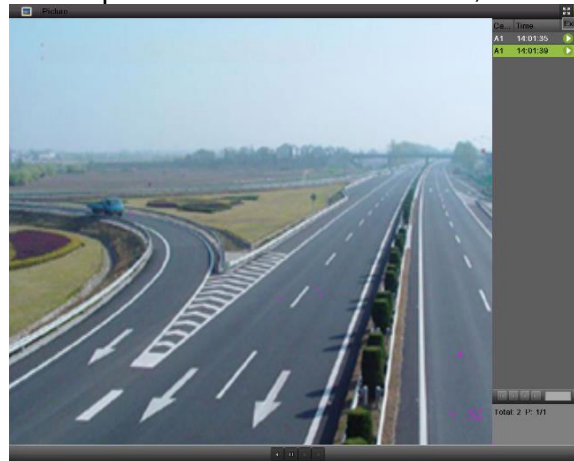

Figure 91 Picture Playback
9. Click  to play back the pictures in Full Screen mode, as shown in **Figure 91**.